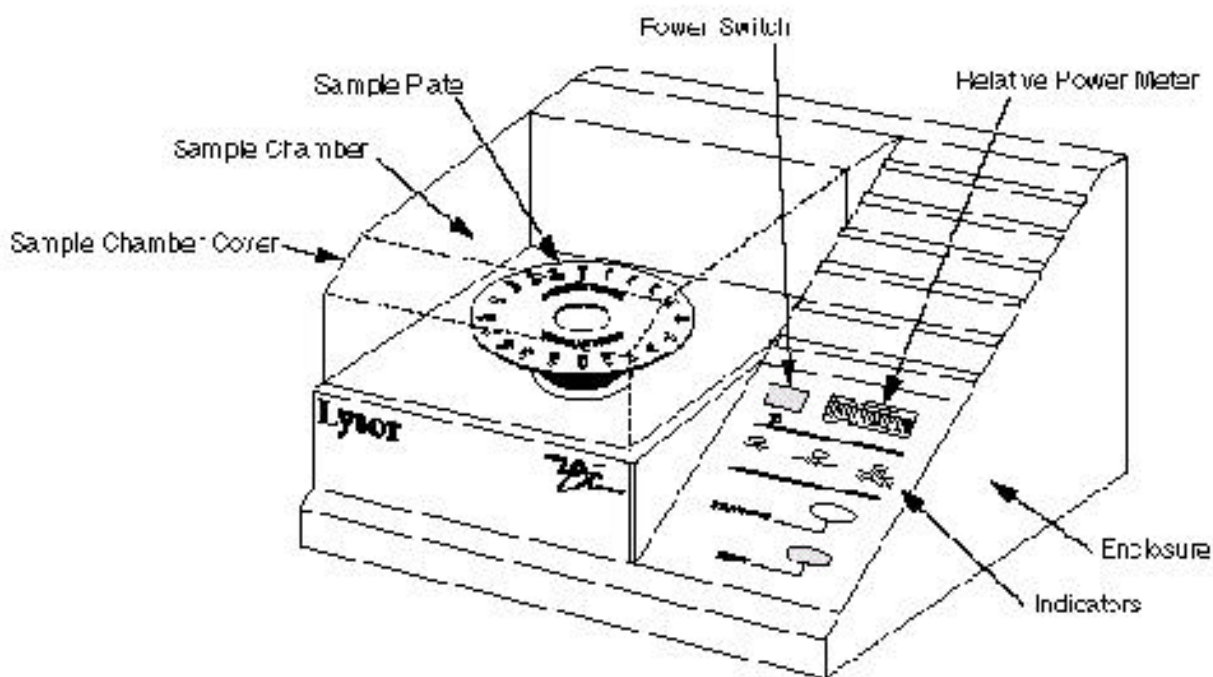

Figure 1: LCx Lysor
The LCx[®] Lysor[™] (see Figure 1) provides a means of lysing microorganisms in tubes used for in vitro diagnostic procedures. The LCx Lysor is an electromechanical device which can lyse up to 20 samples at one time.
4. Plug the power cord into a 3-wire grounded electrical outlet. If the Lysor power switch is illuminated, press the power switch (see **Figure 1**) to OFF.
5. Close the sample chamber cover, (see **Figure 1**).